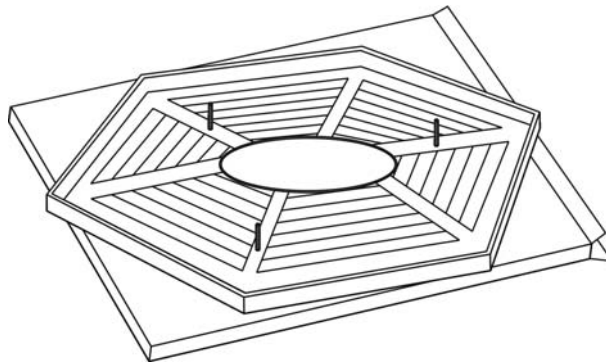

Figure 3
2. Place the tabletop upside-down on a flat, non-abrasive surface. Insert four 1/4"x40 mm headless bolts (N) into the pre-drilled hole on the underside of the tabletop as shown in Fig. 3. Do not over tighten.